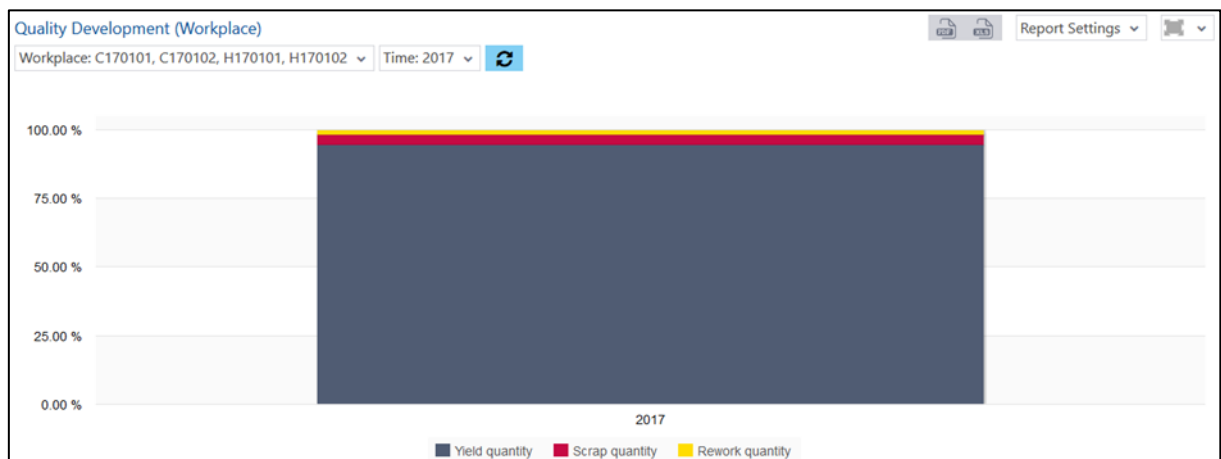

Fig. 105: Quality development (workplace) as a column chart
- Quality development (workplace) as a column chart (fig. 105):